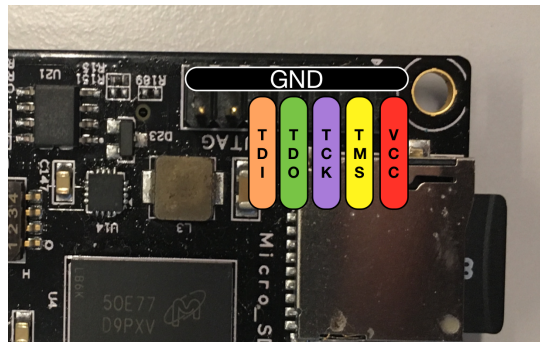

Figure 3: JTAG Pinout
- Connect the programmer on the JTAG port. Make sure the connector matches the pinout from Figure 3.